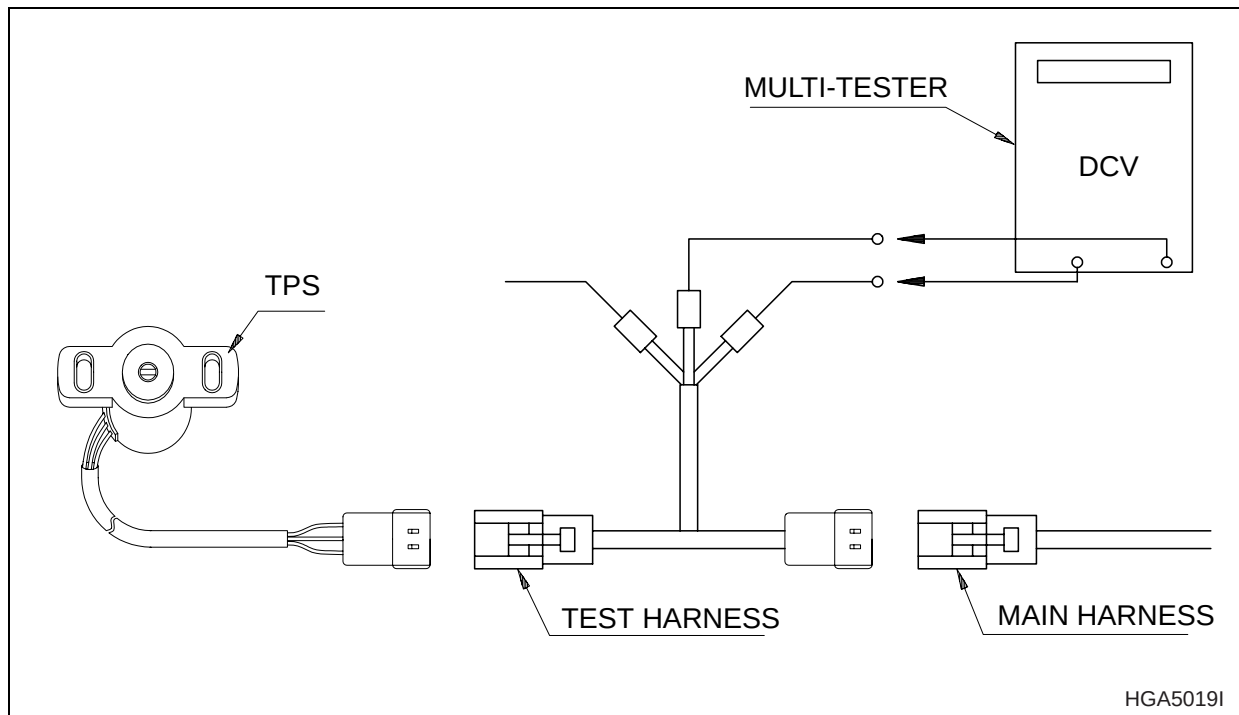

Figure 47
1. After connecting the harness for test to TPS, install multi-tester, and select DC voltage (DCV) (Refer to "Figure 47").